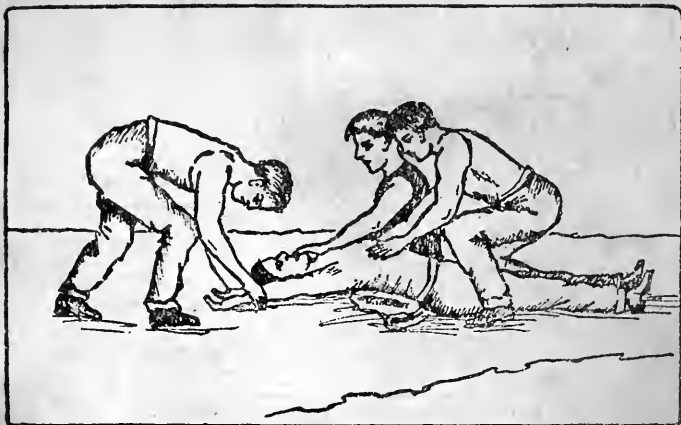

FIG. 2.—Movements to produce inspiration.
**RULE III. To PRODUCE BREATHING** (see figs. 2 and 3).—Clear the mouth and throat of mucus by introducing into the throat
the corner of a handkerchief wrapped closely around the forefinger; turn the patient on the back, the roll of clothing being so placed as to raise the pit of the stomach above the level of the rest of the body. Let an assistant with a handkerchief or piece of dry cloth draw the tip of the tongue out of one corner of the mouth (which prevents the tongue from falling back and choking the entrance to the windpipe), and keep it projecting a little beyond the lips. Let another assistant grasp the arms just below the elbows and draw them steadily upward by the sides of the patient's head to the ground, the hands nearly meeting (which enlarges the capacity of the chest and induces inspiration). (Fig. 2.) While this is being done let a third assistant take position astride the patient's hips with his